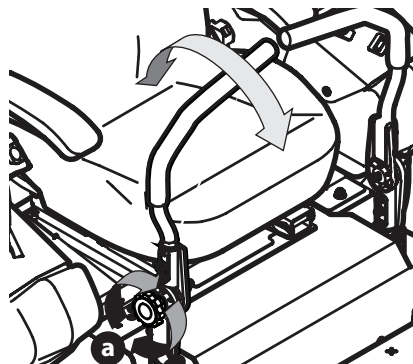

Figure 7
- Loosen the control lever knob (a) to unlock the drive control levers (Figure 7).
- Move drive control levers to the desired angle and retighten the drive control knob (a) to secure the drive control levers in place (Figure 7).